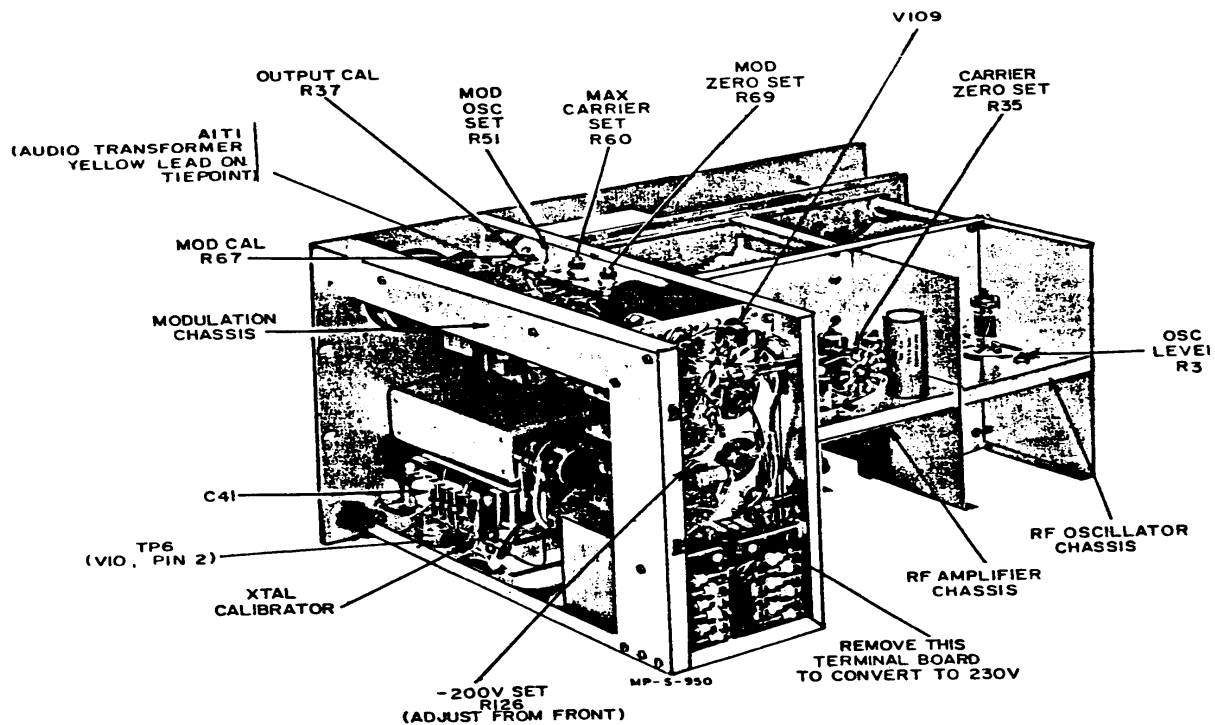

Figure 1. Test instrument - overall view.
(1) Connect multimeter between **A1T1 AUDIO TRANSFORMER** (yellow lead on tie point) (fig. 1) and chassis ground.
(2) Adjust **MOD OSC SET R51** (fig. 1) for a 3.2 V ac indication on multimeter (R).
(3) Repeat **a** above.
- (1) Connect frequency counter to **pin 2** of **V10** (fig. 1) and chassis ground.
- (2) Set **CRYSTAL CALIBRATOR** switch to **1MC**. If frequency counter does not indicate between 999.900 and 1000.100 kHz, perform **b** below.
- (3) Set **CRYSTAL CALIBRATOR** switch to **100 kHz**. If frequency counter does not indicate between 99.990 and 100.010 kHz, perform **b** below.
- (4) Set **CRYSTAL CALIBRATOR** switch to **OFF**.
**b. Adjustments.** Adjust **C41** (fig. 1) for best compromise between allowable limits in **a** (2) and (3) above (R).
- (1) Remove shield assembly from RF oscillator-RF amplifier portion of TI.
- (2) Adjust TI output frequency control to frequency where amplitude is 80 mV or greater.
- (3) Adjust **CARRIER ZERO SET R35** (fig. 1) until oscilloscope indication is slightly increased, then slowly adjust in opposite direction until oscilloscope indication just collapses (R).
- (4) Repeat **a** above.
- (1) Adjust output frequency to range and frequency having lowest output voltage.
- (2) Set **MODULATION SELECTOR** switch to **CW**.
- (3) Adjust **MAX CARRIER SET R60** (fig. 1) for a 1.05 V indication on true rms voltmeter.
- (4) Set **MODULATION SELECTOR** switch to **EXT. AC**. If a voltage change is indicated on true rms voltmeter, adjust **MOD ZERO SET R69** (fig. 1) for a 1.05 V indication on true rms voltmeter.
- (5) Repeat **a** (3) and (4) above. If necessary, slightly readjust **R60**.
- (6) Repeat (1) through (5) above until RF output is 1.05 V or greater over entire frequency range and there is no change in output voltage when **MODULATION SELECTOR** switch is set from **EXT. AC** to **CW**.
(1) Adjust **MODULATION AMPLITUDE** control for a 50 percent indication on measuring receiver. Adjust **MOD CAL R67** (fig. 1) for a 50 percent indication on **PERCENT MODULATION** meter (R).
(2) Adjust **ATTENUATOR VERNIER** control for a 0.2 V indication on **R.M.S. VOLTS** meter. If measuring receiver does not indicate between 45 and 55 percent modulation, adjust **CARRIER ZERO SET R35** (fig. 1) for 50 percent modulation on measuring receiver (R).